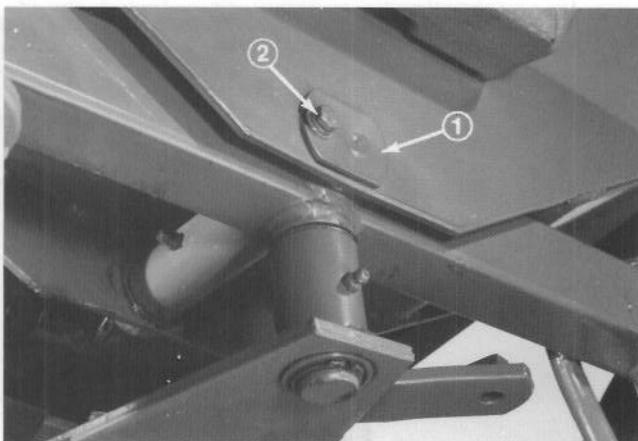

Figure 42
3. Remove capscrew, lockwasher and flatwasher holding outside of axle pin to chassis (Fig. 42).
9. Move rear axle into position at rear of machine. Mount axle between two sections of frame with axle pin and two thrust washers (Fig. 44). The thrust washers must be positioned at ends of the axle pivot tube and between both sections of the frame. Secure axle pin in place with capscrew, lockwasher and flatwasher (Fig. 42).
12. Move rear axle into position at rear of machine. Mount axle between two sections of frame with axle pin and two thrust washers (Fig. 44). The thrust washers must be positioned at ends of the axle pivot tube and between both sections of the frame. Secure axle pin in place with capscrew and lock-washer (Fig. 42).